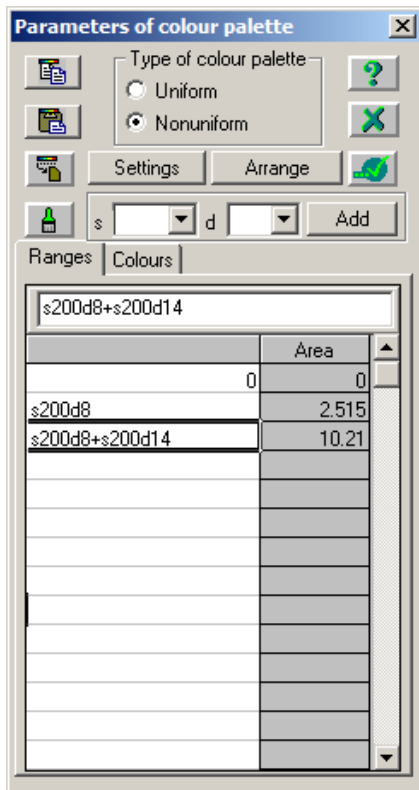

Figure 2.4.13 Parameters of colour palette dialog box (after edit options)
- delete the next rows *s200d12*, *s200d14*, *s200d16* (see Fig.2.4.13);
If the Clipboard contains another data at the moment, then customize the colour palette once again as described above (see Fig.2.4.13).